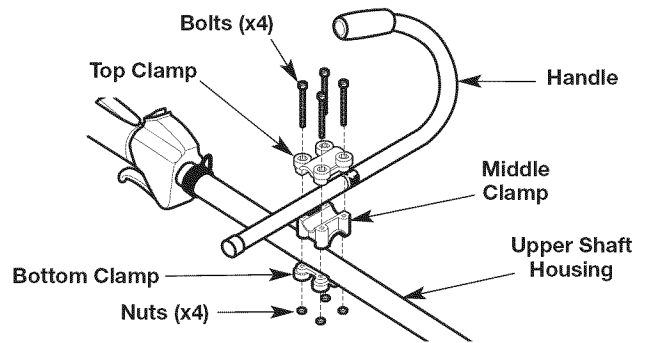

Fig. 1
1. Place the handle between the top clamp and middle clamp (Fig. 1). If necessary, rotate or flip the middle clamp until the holes in the top clamp and middle clamp align.
2. Place the clamps and handle over the upper shaft housing and onto the bottom clamp (Fig. 1).
NOTE: Make sure the curved portion of the handle is on the operator's left (Fig. 1).
3. While holding the pieces together, insert the bolts (x4) into the aligned holes (Fig. 1).
4. Screw a nut onto the end of a bolt, but only slightly. Push the nut into the hexagonal recess on the bottom clamp. Hold the nut in place with a finger to keep it in the recess. Tighten the bolt with a Phillips screwdriver, but do not tighten it completely (Fig. 1). Repeat this step for each nut and bolt.
1. Loosen the bolts (x4) slightly with a Phillips screwdriver (Fig. 1).